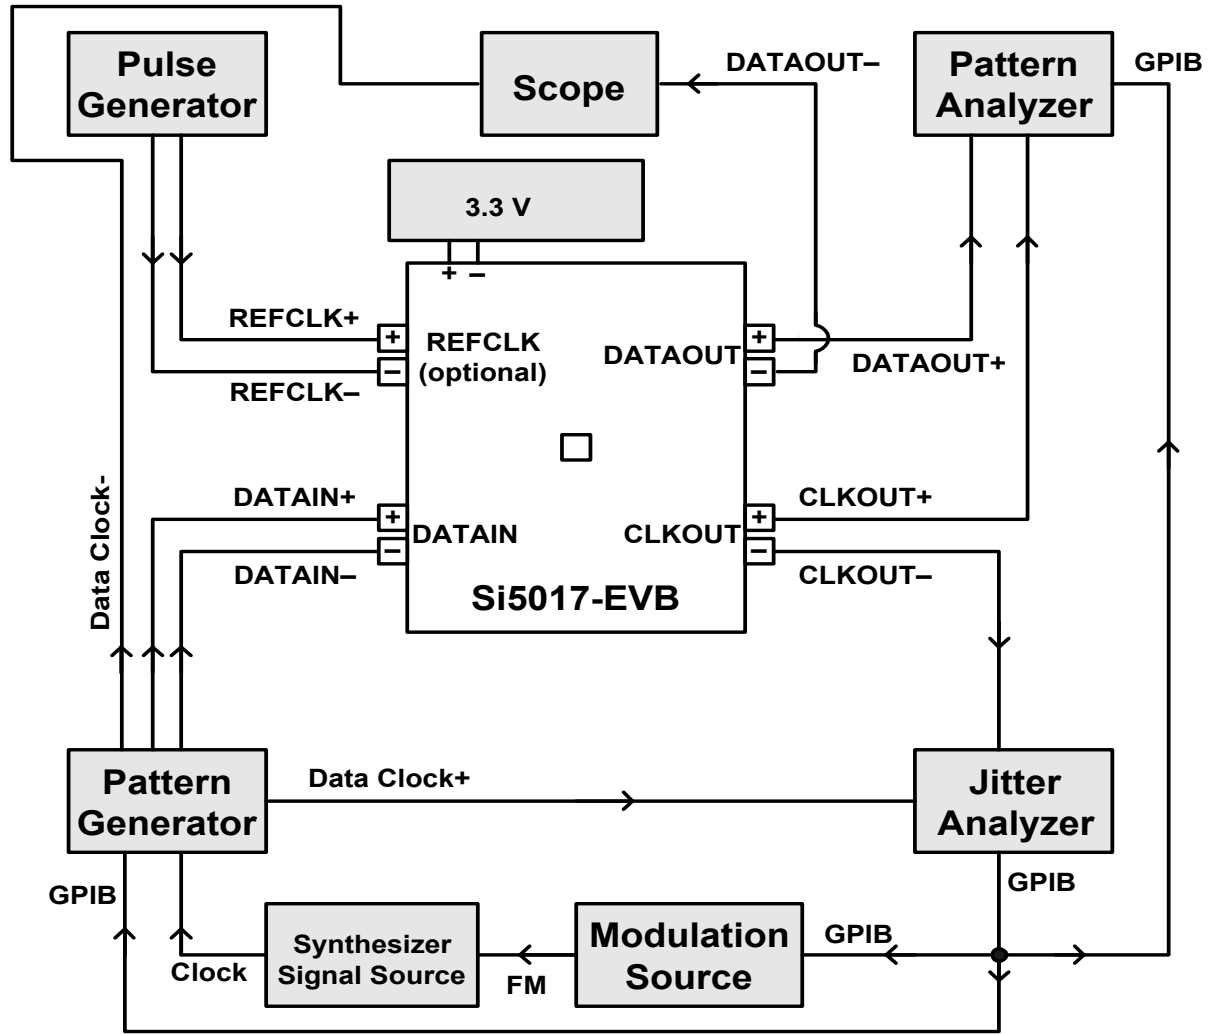

Figure 2. Test Configuration for Jitter Tolerance, Transfer, and Generation
The three critical jitter tests typically performed on a CDR device are jitter transfer, jitter tolerance, and jitter generation. By connecting the Si5017 Evaluation Board as shown in Figure 2, all three measurements can be easily made.
**Jitter Tolerance:** Referring to Figure 2, this test requires a pattern generator, a clock source (synthesizer signal source), a modulation source, a jitter analyzer, a pattern analyzer, and a pulse generator (all unconnected high-speed outputs must be terminated to 50  $\Omega$ ). During this test, the Jitter Analyzer directs the Modulation Source to apply prescribed amounts of jitter to the synthesizer source. This "jitters" the pattern generator timebase which drives the DATAIN ports of the CDR. The Bit-Error-Rate (BER) is monitored on the Pattern Analyzer. The modulation (jitter) frequency and amplitude is recorded when the BER approaches a specified threshold. The Si5017 limiting amplifier can also be examined during this test. Simply lower the amplitude of the incoming data to the minimum value typically expected at the limiting amplifier inputs (typically 10 mVPP for the Si5017 device).
**Jitter Generation:** Referring to Figure 2, this test requires a pattern generator, a clock source (synthesizer signal source), a jitter analyzer, and a pulse generator (all unconnected high-speed outputs must be terminated to 50  $\Omega$ ). During this test, there is no modulation of the Data Clock, so the data that is sent to the CDR is jitter free. The Jitter Analyzer measures the RMS and peak-to-peak jitter on the CDR CLKOUT. Thus, any jitter measured is jitter generated by the CDR.
**Jitter Transfer:** Referring to Figure 2, this test requires a pattern generator, a clock source (synthesizer signal source), a modulation source, a jitter analyzer, and a pulse generator (all unconnected high-speed outputs must be terminated to 50  $\Omega$ ). During this test, the Jitter Analyzer modulates the data pattern and data clock reference. The modulated data clock reference is compared with the CLKOUT of the CDR. Jitter on CLKOUT relative to the jitter on the data clock reference is plotted versus modulation frequency at predefined jitter amplitudes.